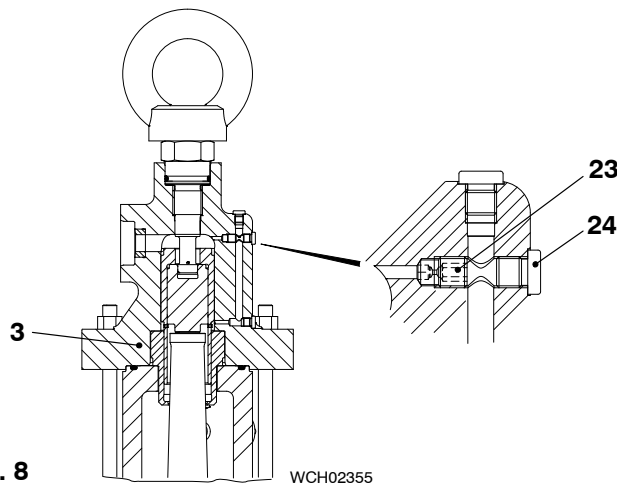

Fig. 8
- a) Remove the screw plug (24, Fig. 8).
- b) Remove the throttle (23).
- c) Make sure that the throttle (23) is clear.
- d) Put oil on the threads of the throttle (23).
- 2) Put the throttle (23) in position.
- 3) Torque the throttle (23) to 4.0 Nm.